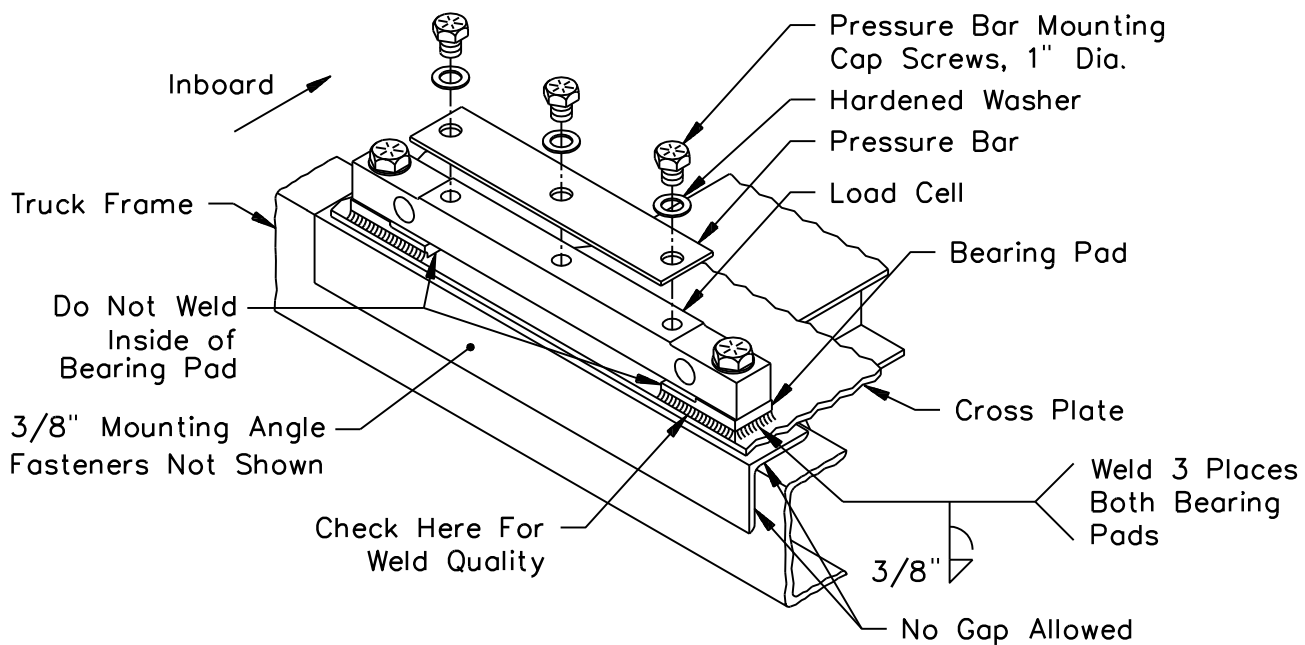

FIG. 102-C
4. Remove the 1-1/8" diameter end cap screws, lift the bolster and the load cell assembly away, and complete welding of the bearing pads. **Note:** All welding and welding procedures must meet the American Welding Society specifications. Bearing pads must be welded securely on the three sides as shown in FIG. 102-C.